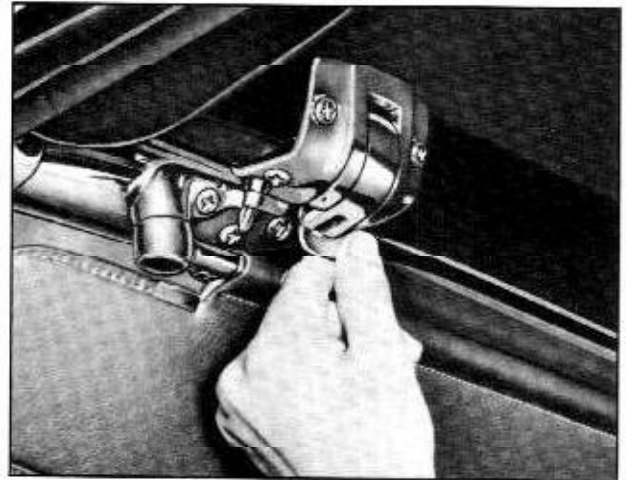

Fig. 17-102 Unlocking Top From Header
2. Turn down both sun visors; then rotate each locking handle rearward then upward until it is disengaged from striker on windshield header. (Fig. 17-102)